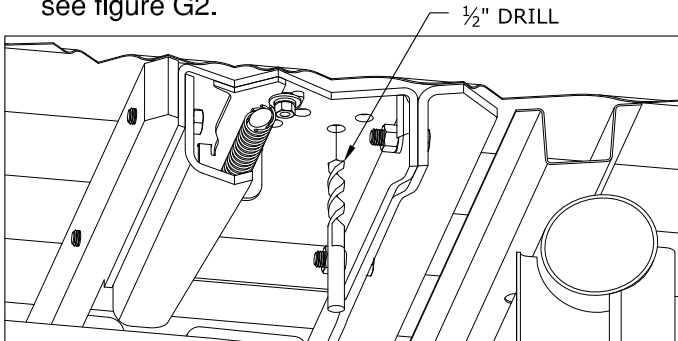

FIGURE G2: Cut away view of bed and center section
- 1. Drill the holes.** From under the bed use a drill and a $\frac{1}{2}$ " drill bit to drill through the bed using the four holes that match up with a low rib in the truck as a guide. Remove any burrs created during the drilling process, see figure G2.